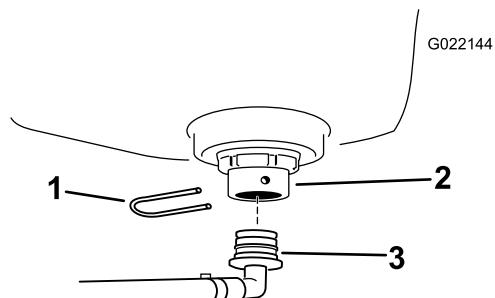

Figure 13
2. Install the rinse tank hosebarb to the bulkhead fitting and secure it with a retaining fork (Figure 13). Rotate the fitting so that it faces rearward.